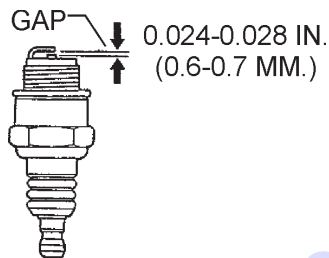

Figure 28. Spark Plug Gap
■ Remove and clean the spark plug (Figure 28), then adjust the spark gap to 0.024 ~0.028 inch (0.6~0.7 mm). This unit has electronic ignition, which requires no adjustments.